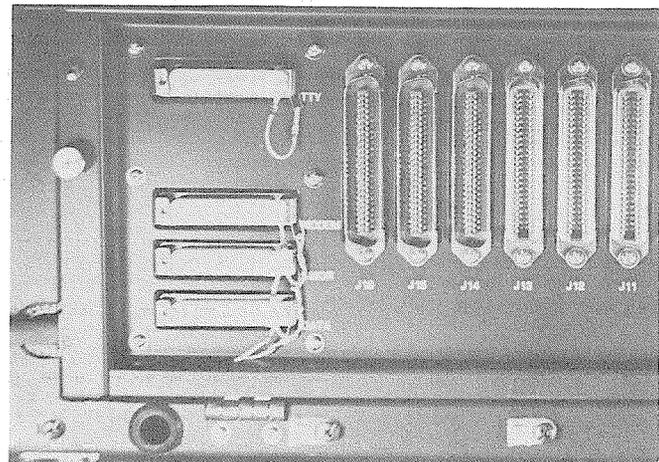

FIGURE 16—CLOSED CONNECTOR PANEL main memory. Performs all system control functions.
- i) Route the DPSA AC power cord through the cable restraint and out through the grommeted slot in the left rear of the DCEC and carefully close the connector panel (Figure 16).